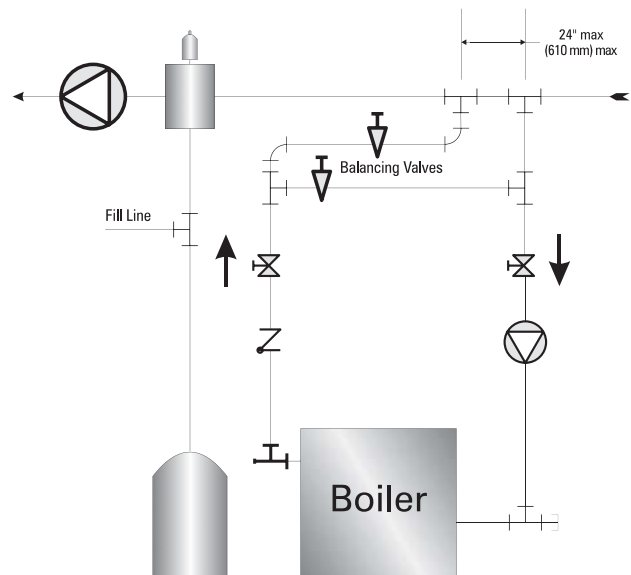

Figure 5.3: Fixed By-Pass Piping, Single Boiler
- a. For systems with a relatively constant low operating temperature (such as heat pump systems), you can pipe a fixed flow by-pass arrangement as shown in Figure 5.3. This piping will not work for variable low temperature systems such as outdoor reset systems or